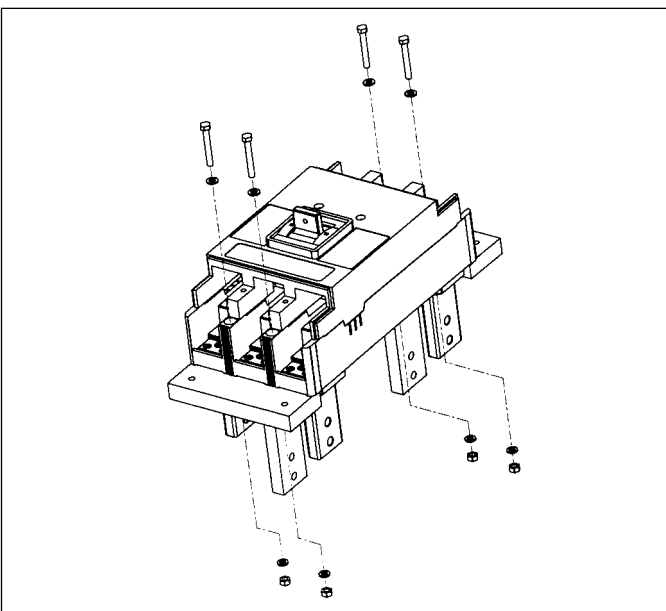

Figure 2-8 Mounting Plate Installation - 1600A Rear Connect Circuit Breaker
- b. Attach the insulating Mounting Plates to the Line and Load sides of the circuit breaker as shown in Figure 2-8 with the M8 x 1.25 x 60mm Pan Screw and hardware supplied with the Mounting Plate.